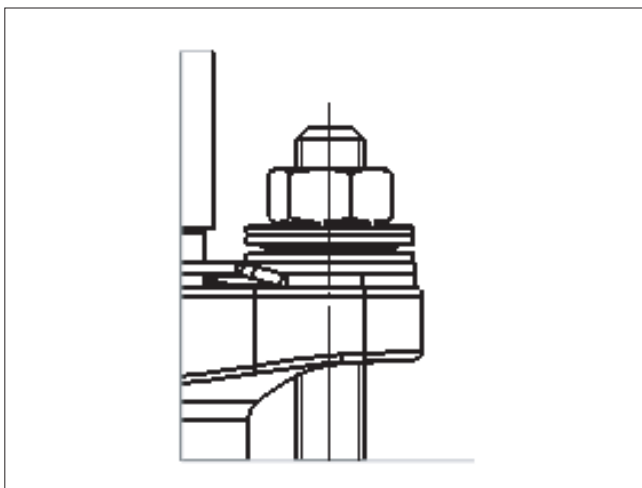

Fig. 11 Standard live-loading
- For the standard live-loading option (Figure 11), please refer to Table 5 for the tightening torques. Install the disc springs one at a time, in opposite orientations, make sure the first installed disc spring has its wider area pointing down.